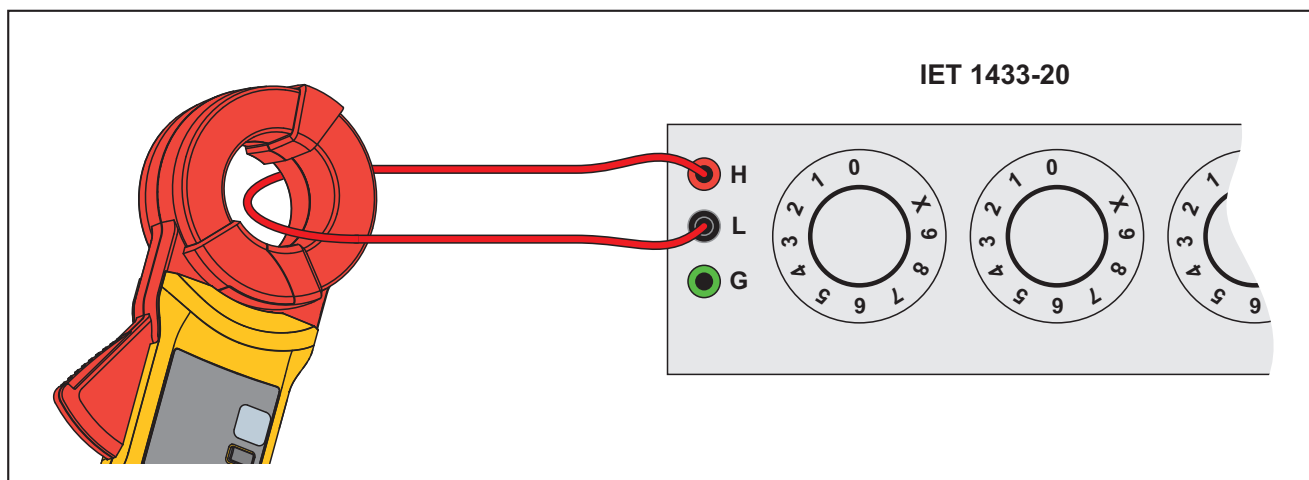

Figure 2. Calibration with 1-Loop Short Copper Wire
3. At the next calibration step, if the screen shows Ω , apply a resistance loop to the jaw with the precision decade resistance box an a 1-loop short copper wire. See Figure 2. The applied resistance value should be the same on the calibrator as the value on the screen below.